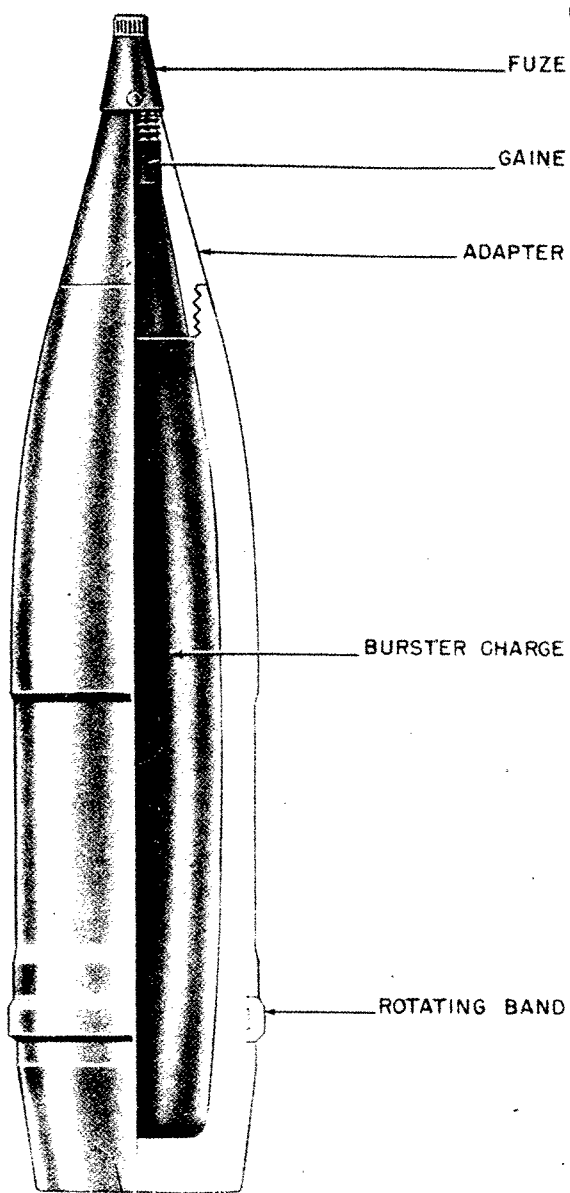

Figure 515—H. E. Projectile, of Russian Origin, 152-mm, 15.2-cm Sprgr. 436 (r)
**GERMAN NOMENCLATURE:** 15.2-cm Sprgr 436 (r). (See fig. 515.)